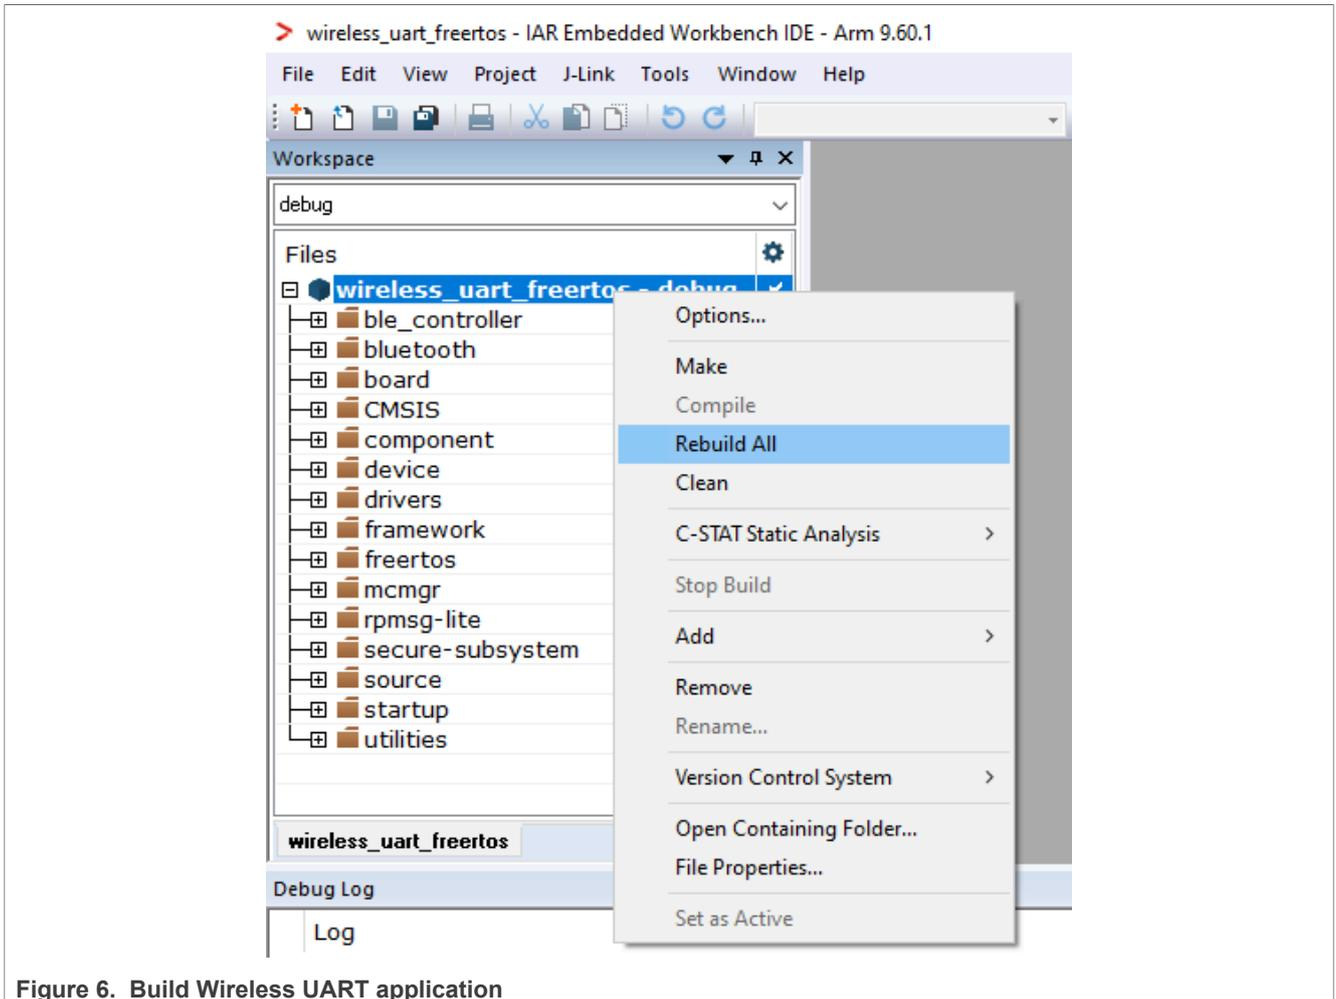

Figure 6. Build Wireless UART application
4. Build the Wireless UART project using the options shown in Figure 6.